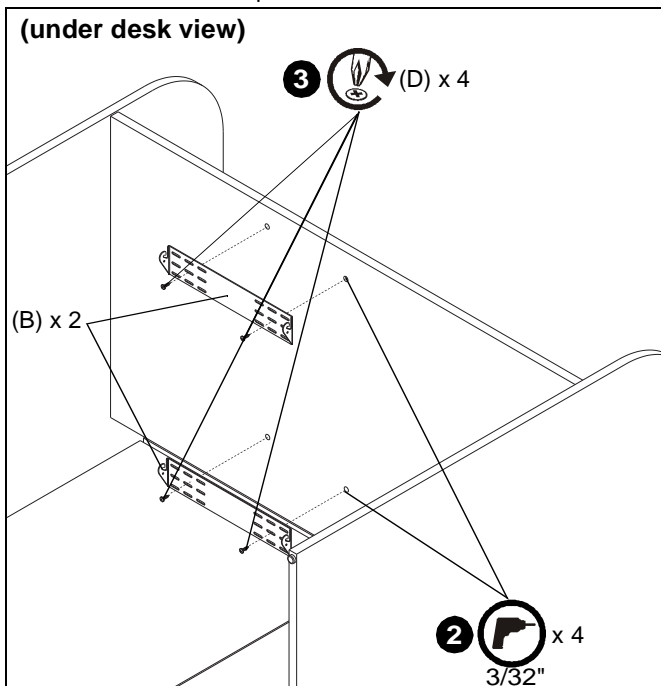

Figure 2
2. Drill four 3/32" pilot holes at marked locations under desk. (See Figure 2)
3. Use four #10 x 3/4" Phillips wood screws (D) to secure two desk brackets (B) to underside of desk. (See Figure 2)